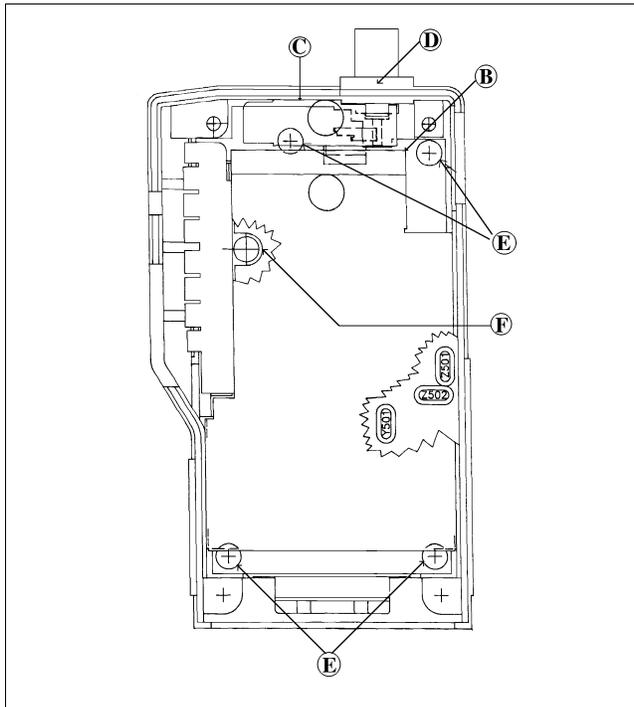
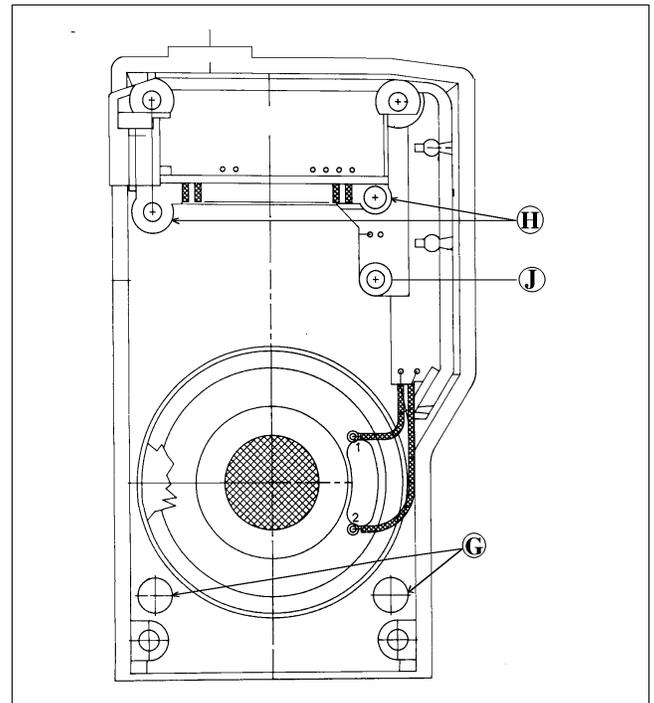

Figure 3 - RF Board Removal
Figure 4 - Audio/Logic Board Removal
**RF BOARD REMOVAL (See Figure 3)**
1. Remove the friction fit RF shield (B) that covers most of the RF Board.
2. Remove the friction fit RF shield (C) that covers the BNC antenna connection to RF Board.
5. Remove the five TORX screws (#10 drive) at (E) and (F) that secure the RF Board to the rear casting.
**AUDIO/LOGIC BOARD REMOVAL (See Figure 4)**
**CONTROL FRAME REMOVAL (See Figure 4)**
1. Remove the M3-0.5 x 4 TORX screw (J) securing the control frame to the front radio half.